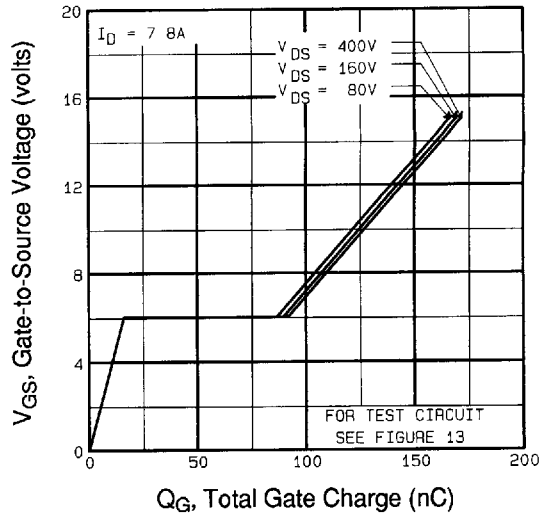

Fig 6. Typical Gate Charge Vs. Gate-to-Source Voltage
| Q _{gd} | Gate-to-Drain ("Miller") Charge | — | — | 110 | | V _{GS} =10V See Fig. 6 and 13 ④ |